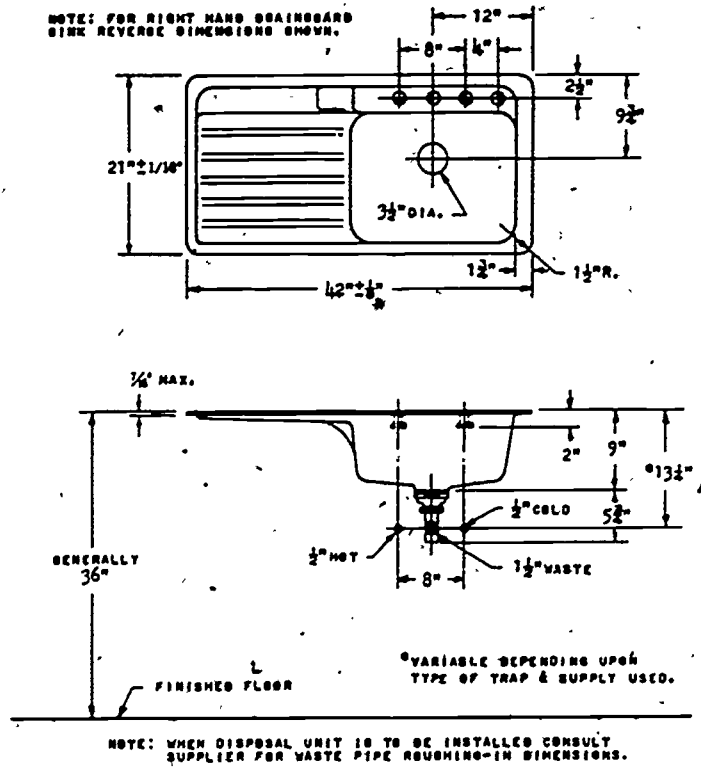

Figure 10. Rough-In Measurements for Kitchen Sink
1. Study the rough-in measurements shown in figure 10 and then answer each of the following questions.